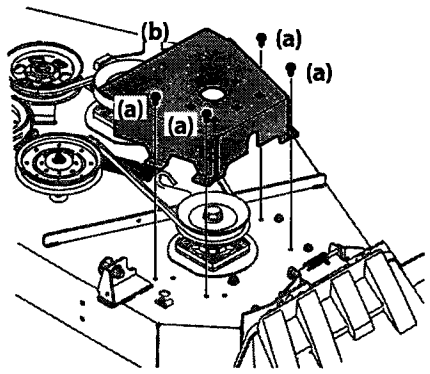

Figure 4-16
2. Remove the hex washer screws (a) securing the belt covers (b) to the deck. See Figure 4-16.
3. Remove the two idler pulleys (a & b) by removing the hex screws (c) and flange lock nuts (d) that secure them to the deck and the idler arm (e). See Figure 4-16. Do not lose any of the hardware (pulley caps (f), washers, belt guards (g) (if equipped)) when removing the hex screw (c) and flange lock nut (d).
5. Install the new belt around the spindle pulleys as shown and reinstall the belt cover (b). See Figure 4-16.